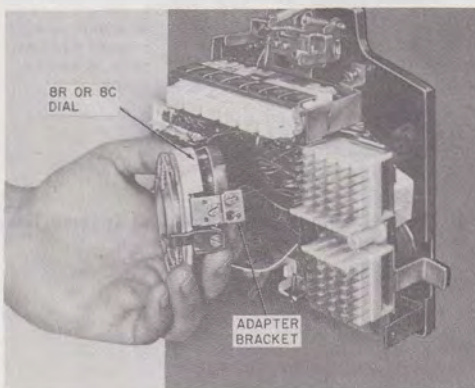

Fig. 16—Dial Adapter Bracket
**3.11 Speakerphone:** These sets are factory-wired for 3-type speakerphone except that the 851-type telephone set requires the replacement of the 8R dial with an 8C dial to provide a second set of off-normal contacts (P3 and P4 leads). When replacing the dial the adapter brackets must be removed from the 8R dial and added to the 8C dial (Fig. 16). Terminate the additional leads as shown in Fig. 22. With both the rotary and the TOUCH-TONE sets, a loudspeaker and transmitter must be installed external to the set and wired to the 55-type control unit. The control unit can be located near the telephone set (Fig. 18) or at the KTS equipment (Fig. 19).
**5.02** When dial replacement is necessary in the 851-type telephone set, use an 8R dial for nonspeakerphone sets and an 8C dial for sets with speakerphone. Remove dial by loosening mounting screws and springing dial brackets sufficiently to release dial from locating pins. Left hand bracket may have to be moved slightly toward right side of set to permit dial to clear screw terminal field (or loosen and move screw terminal field). Transfer adapter brackets from dial being replaced to new dial (Fig. 16).